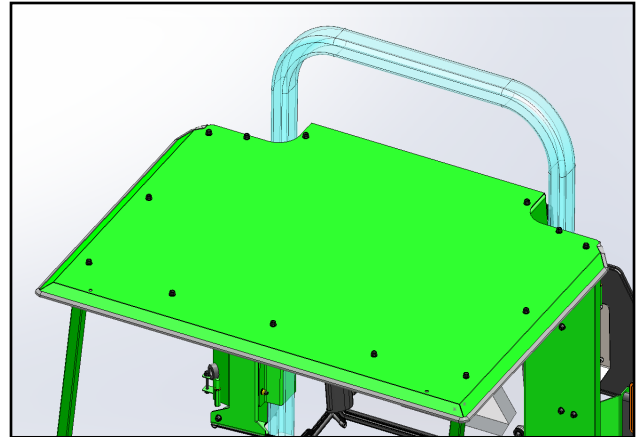

Fig. 10.2 (Install Roof)
10.2 With a helper, set the Roof on top of the Windshield Support and the Door Headers. All heads of 15 bolts should be on the exterior surface with sealing washers used. Note: also install two additional bolts in the rear flange of the Roof (not shown in fig. 10.2). Leave bolts loose.